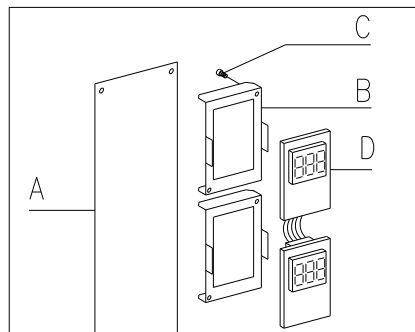

FIG. 17
8.11 REPLACING THE DISPLAY FIG. 17